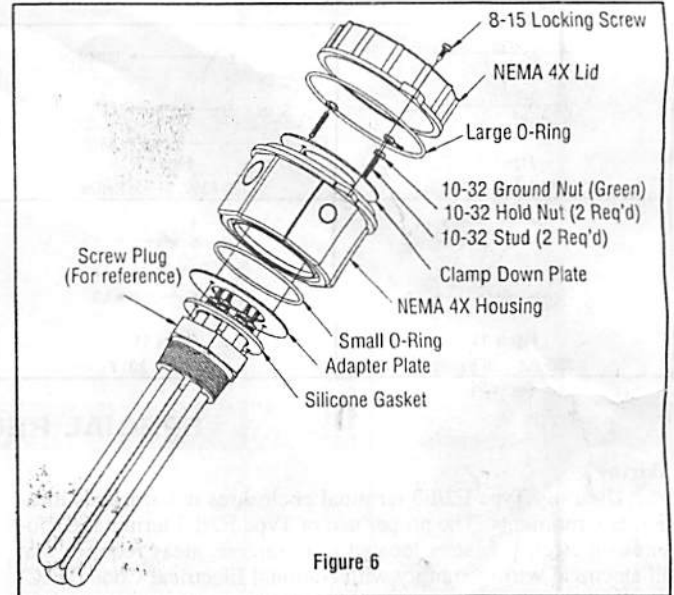

Figure 6
12. Adjustment Instructions for E4TP Enclosure only (Figure 6).